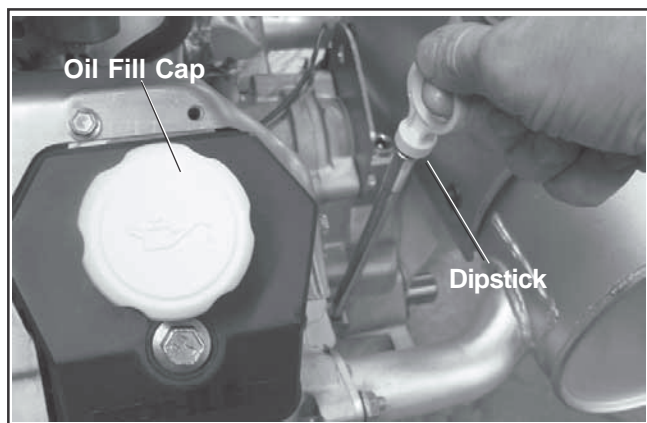

Figure 6-2. Dipstick and Oil Fill Cap Locations
3. Remove the dipstick; wipe oil off. Reinsert the dipstick into the tube until fully seated. See Figure 6-2.